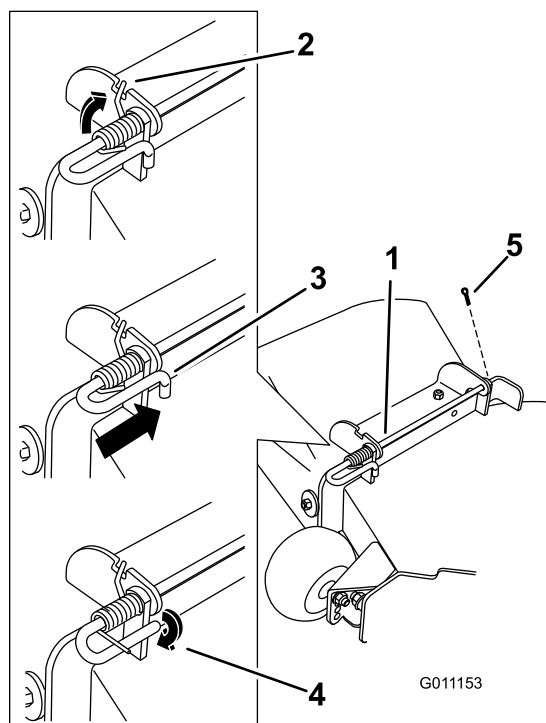

Figure 71
5. Lift the long end of the spring and place it into the notch on the deflector assembly bracket (Figure 71).
6. Secure the rod and spring assembly by twisting it so the short end of the rod can be placed behind the front bracket welded to the deck (Figure 71).
7. Install the cotter pin (Figure 71).